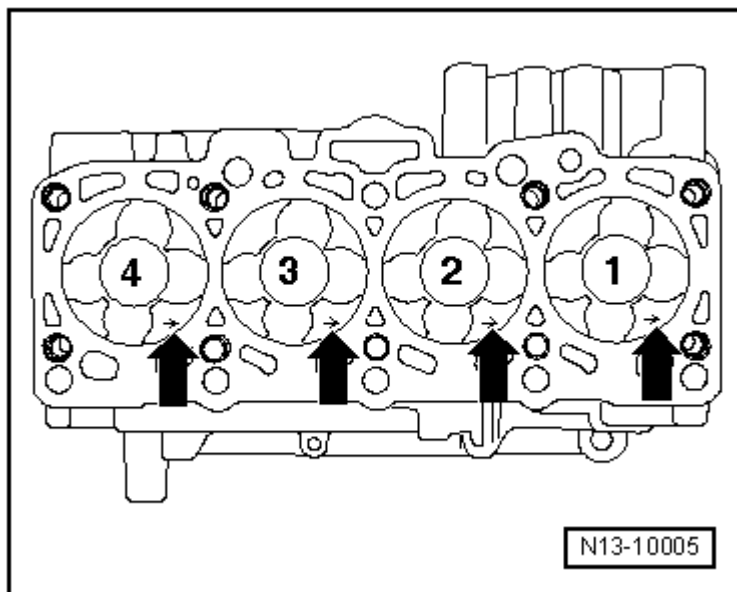

Fig. 14: Installed Position Of Piston And Piston/Cylinder Allocation
- Installed position and cylinder allocation, refer to **Fig. 14**.